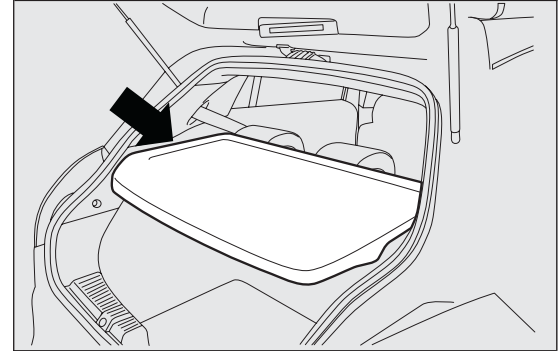
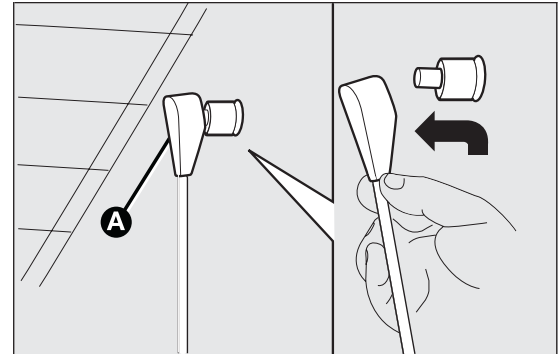

fig. 92
fig. 93
- ❑ remove the rear parcel shelf fig. 92 and release the upper ends of links A fig. 93 by removing the eyelets from the pins and pushing them in the direction indicated by the arrow;